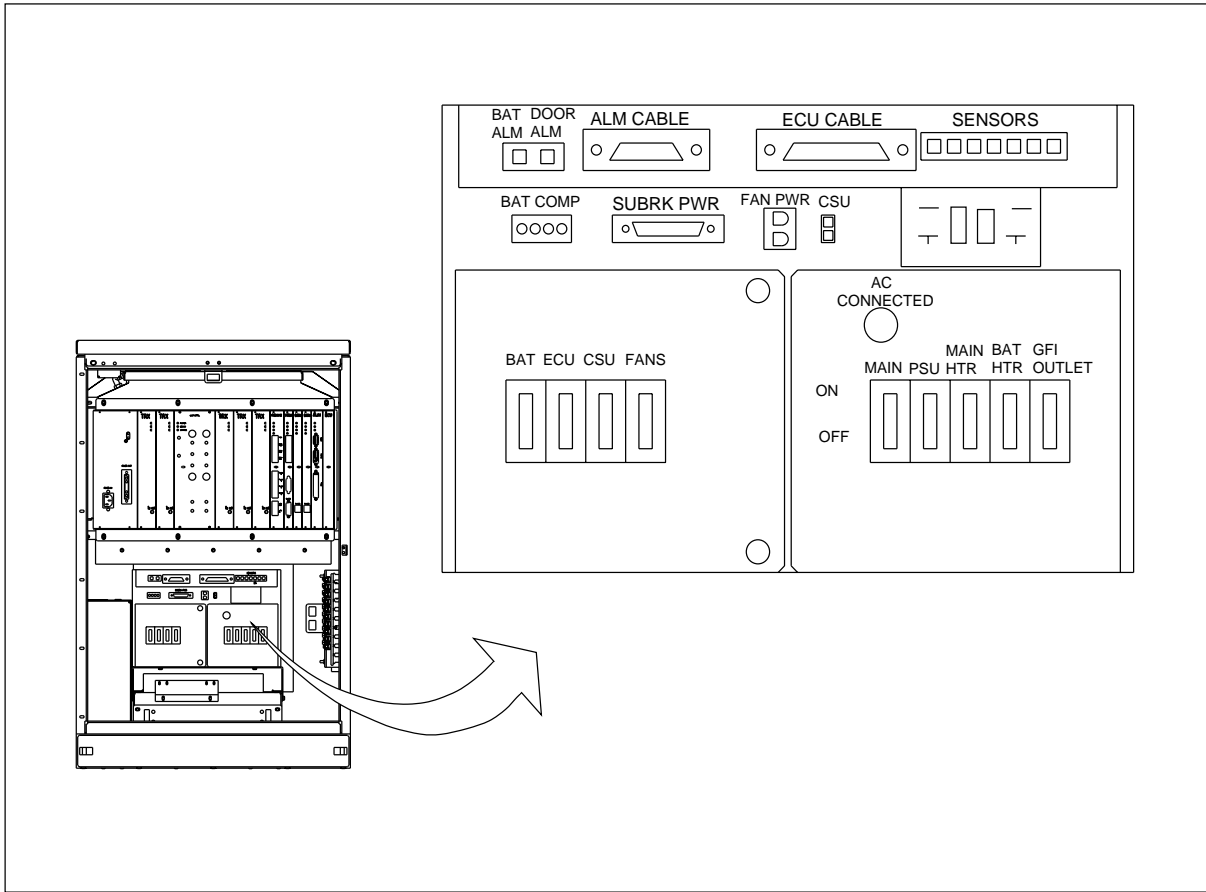

Figure 4-38. Cabinet Circuit Breakers
2. Position the circuit breakers on the front panel of the AC/DC box to ON in the following sequence. See Figure 4-38 on page 4-56 for the location of the circuit breakers.